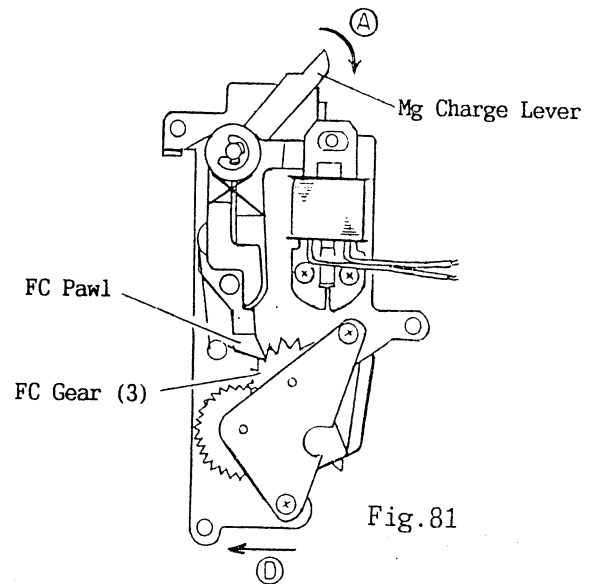

Fig. 81
- 2) Turn the FC Gear (1) in the direction of the arrow (B) (about one turn). Separate the FC Gear (1) and check if the FC Gear (1) turns smoothly.
- 3) Turn the FC Gear (1) 90° (1/4 turn) in the direction of the arrow (B) from the initial (stopped) position, and then lock the FC Gear (3) with the FC Pawl.
- 4) Move the FC Lever to the open position (in the direction of the arrow (C)), and install the FC Base Plate Ass'y (168A5600) on the Mirror Box. (See Fig. 83) Move the FC Base Plate Ass'y in the direction of the arrow (D) (Fig. 81) and tighten the FC Base Plate Setscrews (61912226) x3.
- 5) Move the Mg Charge Lever in the direction of the arrow (A) to set the FC Lever free.